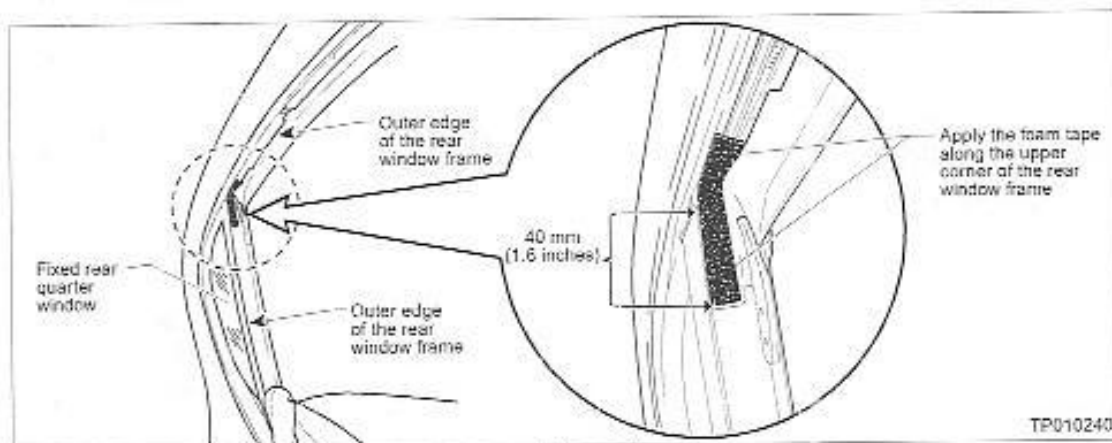

Figure 3
6. Peel off the tape backing and apply the foam tape around the outer edge of the rear window frame. See Figure 3.